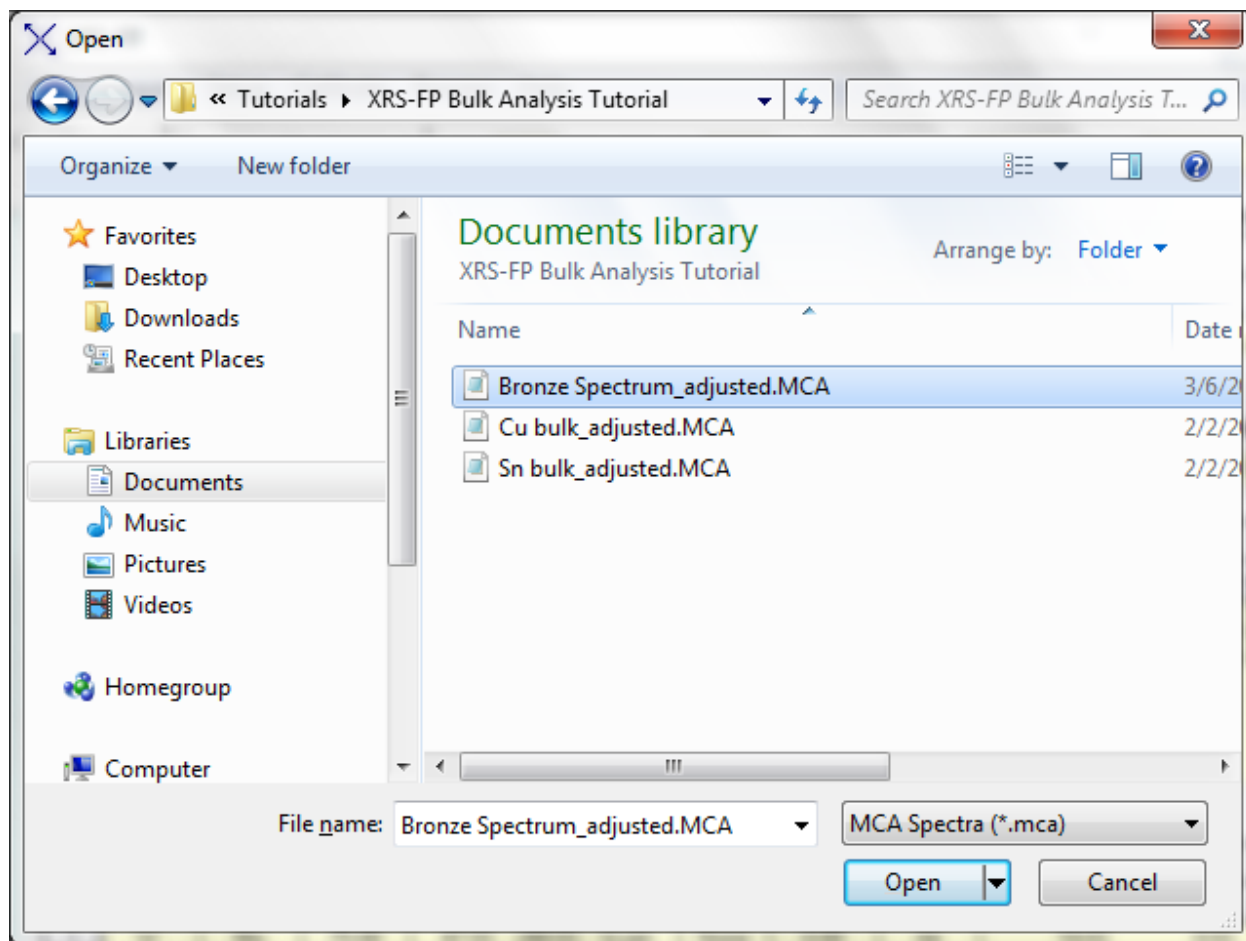

Figure 5
7.1. Recall the Bronze spectrum: From the XRS-FP Analyzer interface - **File>Open** (the Tutorial File type is Amptek Spectrum (*.mca), **Bronze Spectrum_Adjusted.mca** – Figure 5.